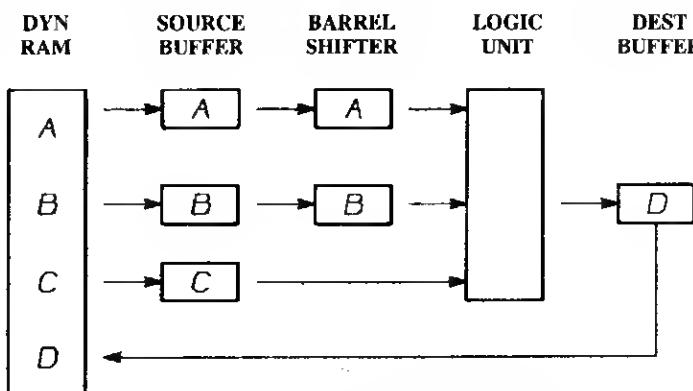

FIGURE 6.3. Blitter Block Diagram
- The block diagram (Figure 6.3) for this device shows the DMA control and address bus logic. The output of each controller indicates the number of DMA channels driving the Register Address Encoder and RAM Address Generator.
- The RAM Address Generator contains an 18-bit pointer register for each of the 25 DMA channels. It also contains pointer restart (backup) registers and jump registers for six (6) of the channels. A full 18-bit adder carries out the pointer increments and adds for jumps.
The procedure for moving and combining bit-mapped images in memory received the name Bit Blit from a computer instruction that did block transfers of data on bit boundaries. These routines became known as Bit Blitters or Blitters. The Blitter DMA Controller is pre-loaded with the address and size of three source images (A, B, and C) and one destination (D) in the dynamic RAM (refer to Figure 6.3). These images can be as small as a single character or as large as twice the screen size. They can be full images or smaller windows of a larger image. After one work of each source image is sequentially loaded into the source buffer (A, B, C) they are shifted and then combined together in the logical unit to perform image movement overlay, masking, and replacements. The result is captured in the destination buffer (D) and sent back to the RAM memory destination address.